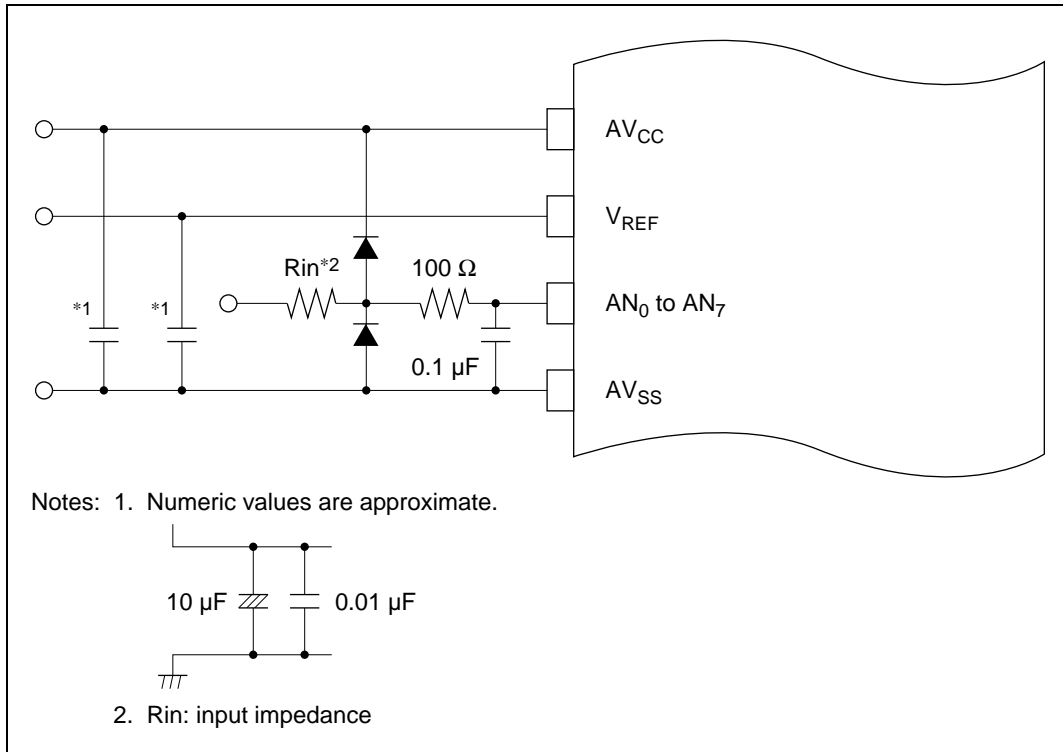

Figure 15.7 Example of Analog Input Protection Circuit
6. Note on Noise: To prevent damage from surges and other abnormal voltages at the analog input pins (AN_0 to AN_7) and analog reference voltage pin (V_{REF}), connect a protection circuit like the one in figure 15.7 between AV_{CC} and AV_{SS} . The bypass capacitors connected to AV_{CC} and V_{REF} and the filter capacitors connected to AN_0 to AN_7 must be connected to AV_{SS} . If filter capacitors like the ones in figure 15.7 are connected, the voltage values input to the analog input pins (AN_0 to AN_7) will be smoothed, which may give rise to error. Error can also occur if A/D conversion is frequently performed in scan mode so that the current that charges and discharges the capacitor in the sample-and-hold circuit of the A/D converter becomes greater than that input to the analog input pins via input impedance R_{in} . The circuit constants should therefore be selected carefully.